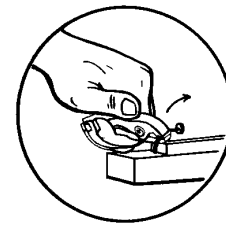

Fig. 11
- Use them to remove nails or brads. Pull the nail out at the same angle it was driven in. Use small blocks under the pliers if you need leverage (Fig. 11).
al mismo ángulo que está clavado. Use bloques pequeños si necesita una palanca (Fig. 11).